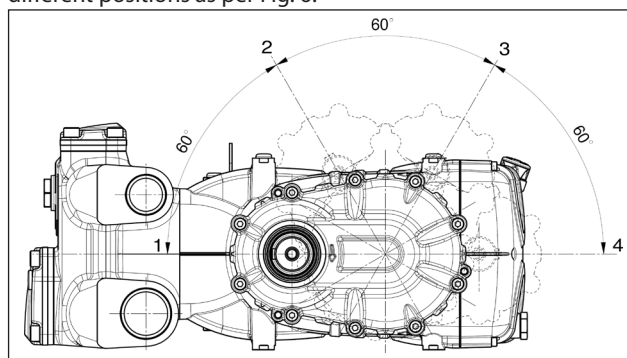

Fig. 6
~ 4.8 liters for versions with a reduction unit in pos. ① and ④ (Fig. 6). This amount will be slightly lower for pos. ② and ③.
In addition it is possible to position the reduction unit in 4 different positions as per Fig. 6.